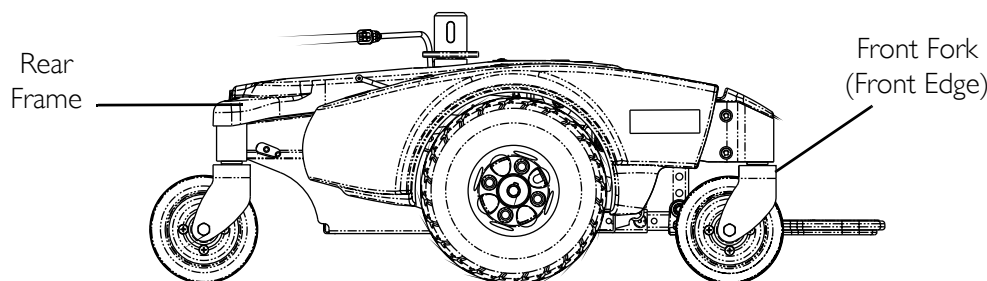

FIGURE 4.4 Lifting/Stairways
NOTE: For this procedure, refer to FIGURE 4.4 on page 25.
5. Ensure that the casters are oriented as shown in FIGURE 4.4.
6. Using the rear and front forks as hand hold supports, transfer the wheelchair base to desired location. Refer to FIGURE 4.4.